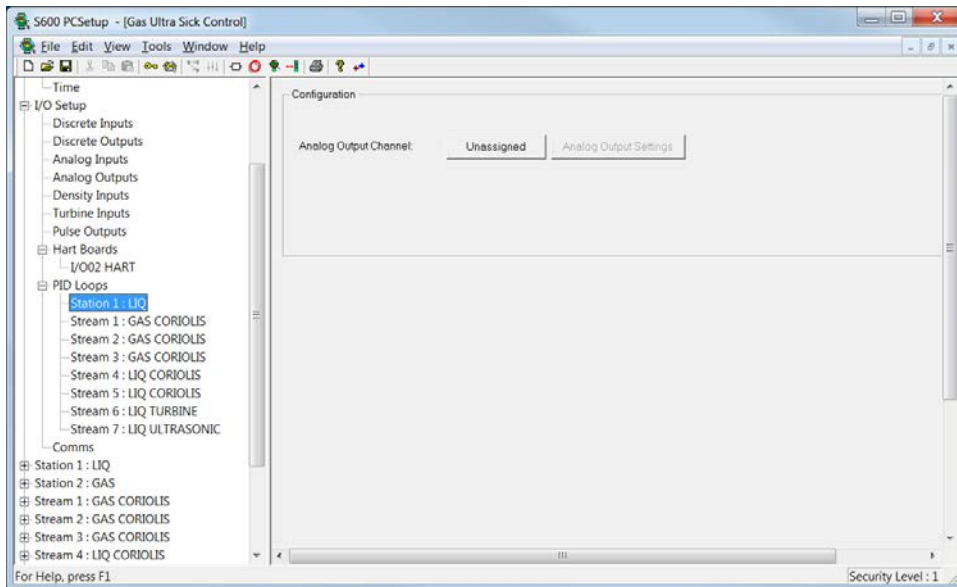

Figure 4-18. PID Loop Enabled screen
1. Select **PID Loops** from the hierarchy menu. The system hides the setup fields until you assign an analog output to the PID loop (see *Figure 4-18*).